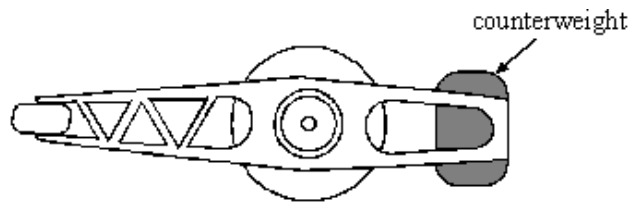

Figure 2
- (b) Bending stresses on the central shaft could have been reduced at the design stage by extending the arm beyond the shaft and fixing a counterweight, as shown in **Figure 2**. Its designers rejected this because savings in the manufacturing and maintenance costs of the system would be far less than the increased costs associated with a higher power motor.